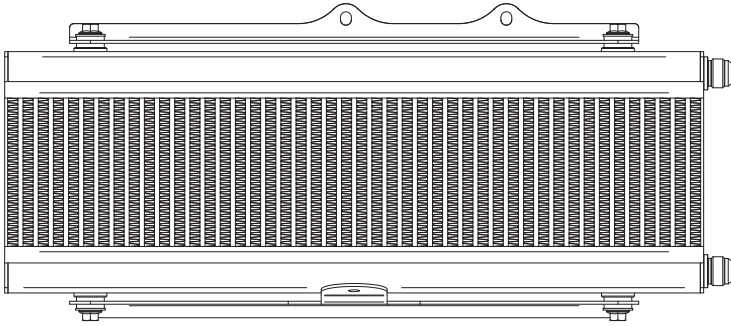

Figure 12 - Brackets Attached to MHX-245
5. Fasten the top and bottom brackets to MHX-245 using the mounting screws included with MHX-245, as shown in Figure 12.